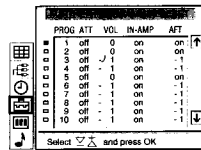

Fig. 18
- Select »Further Programme Preset« with Δ+ or ∇- and press OK. The FURTHER PROGRAMME PRESET menu appears (See Fig. 18).